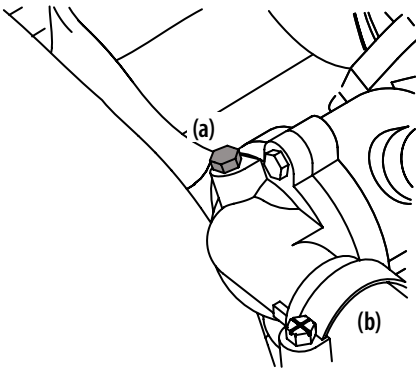

Figure 5-26
4. Remove the second bleeder screw (a) where the radiator hose (b) connects to the engine and let the engine run until a steady stream of fluid comes out of the bleeder screw (a) hole indicating there are no more air pockets in the coolant system. Replace the bleeder screw (a). See Figure 5-26.